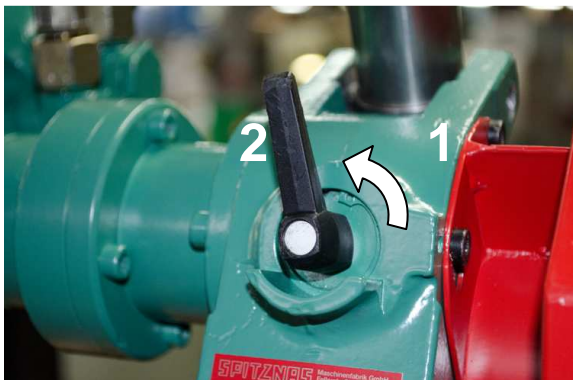

Fig. 10.5
- Change to gear 2 (see fig.10.5).